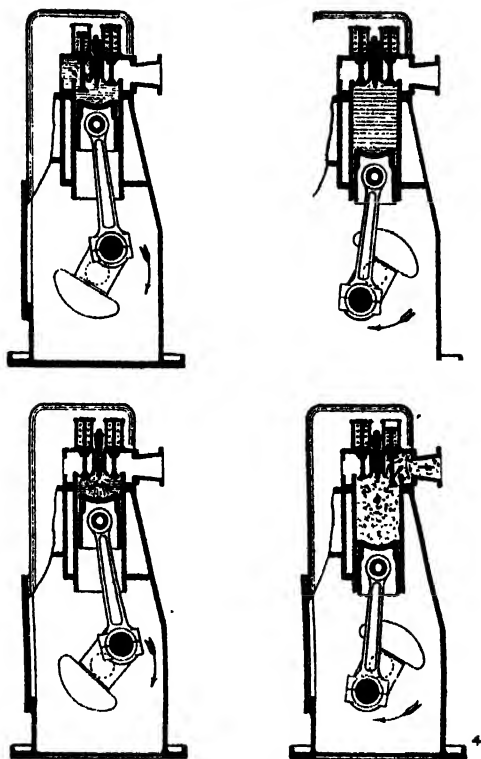

FIG. 151.—The Diesel engine. Cycle of operation.
The engine which has made and is making the greatest advances is the Diesel. The Diesel engine has the vast advantage of burning heavy oil and thereby using the part of crude oil which the petrol engine cannot employ: its efficiency is very great and it requires no unreliable electrical apparatus for ignition. Fig. 151 shows the essential part of a Diesel engine. The engine generally resembles the petrol engine, but there is no carburettor. In place of the sparking plug is a jet through which a pump can force a fine spray of oil. In Fig. 151 (1) the piston is descending and the inlet valve has been opened by a cam mechanism. *Pure air only* is drawn into the cylinder. In Fig. 151 (2) the inlet valve closes: the piston now rises and compresses the air far more highly than the fuel is compressed in the petrol engine: thus, it may be compressed 25 times
instead of 5 times. This makes the air very hot. When the piston is at the top of its stroke (Fig. 151, 3) a fine spray of oil is injected into the cylinder from a small pump worked by the engine. This instantly burns in the hot compressed air and forces the piston down. This is the working stroke. The piston now rises, the exhaust valve is opened and the hot gases are driven out (4). The reason why the Diesel engine has not displaced the petrol engine is its weight. The very high pressures require very strong and heavy parts. None the less, it is now being rapidly developed. Many of the London buses are run by Diesel engines and even aeroplane engines of this type have been built; whether they will be extensively employed for the private car seems less certain.